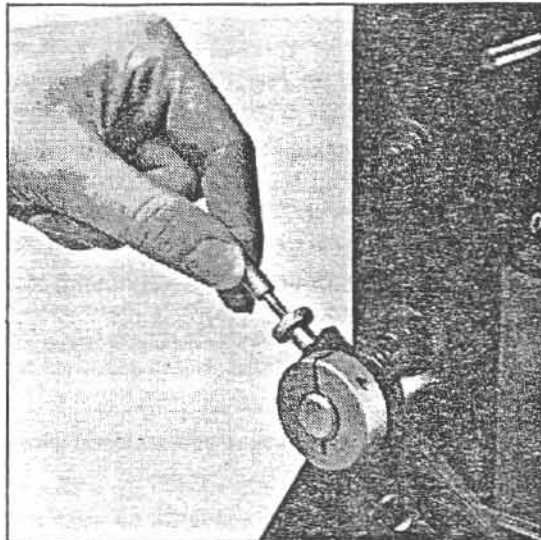

FIGURE 9. NOZZLE HEIGHT ADJUSTMENT
- using Nozzle Height Adjustment Knob, set Nozzle 1/32" above PCB, refer to Figure 9,
- using Nozzle Height Adjustment Knob, set Nozzle $1/32''$ above PCB, refer to Figure 9,